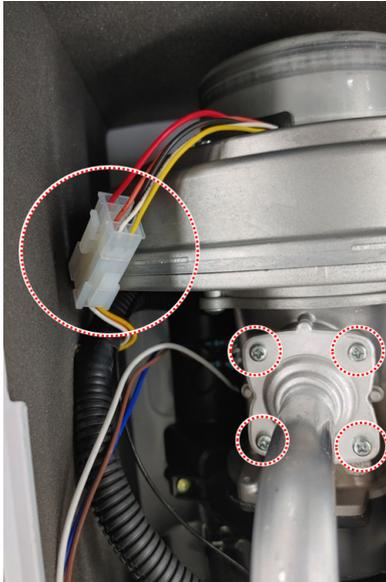

Figure 5
6. Disconnect the wiring connector from the fan assembly, and then remove the 2 screws from the gas valve connection as shown in figure 5 below.